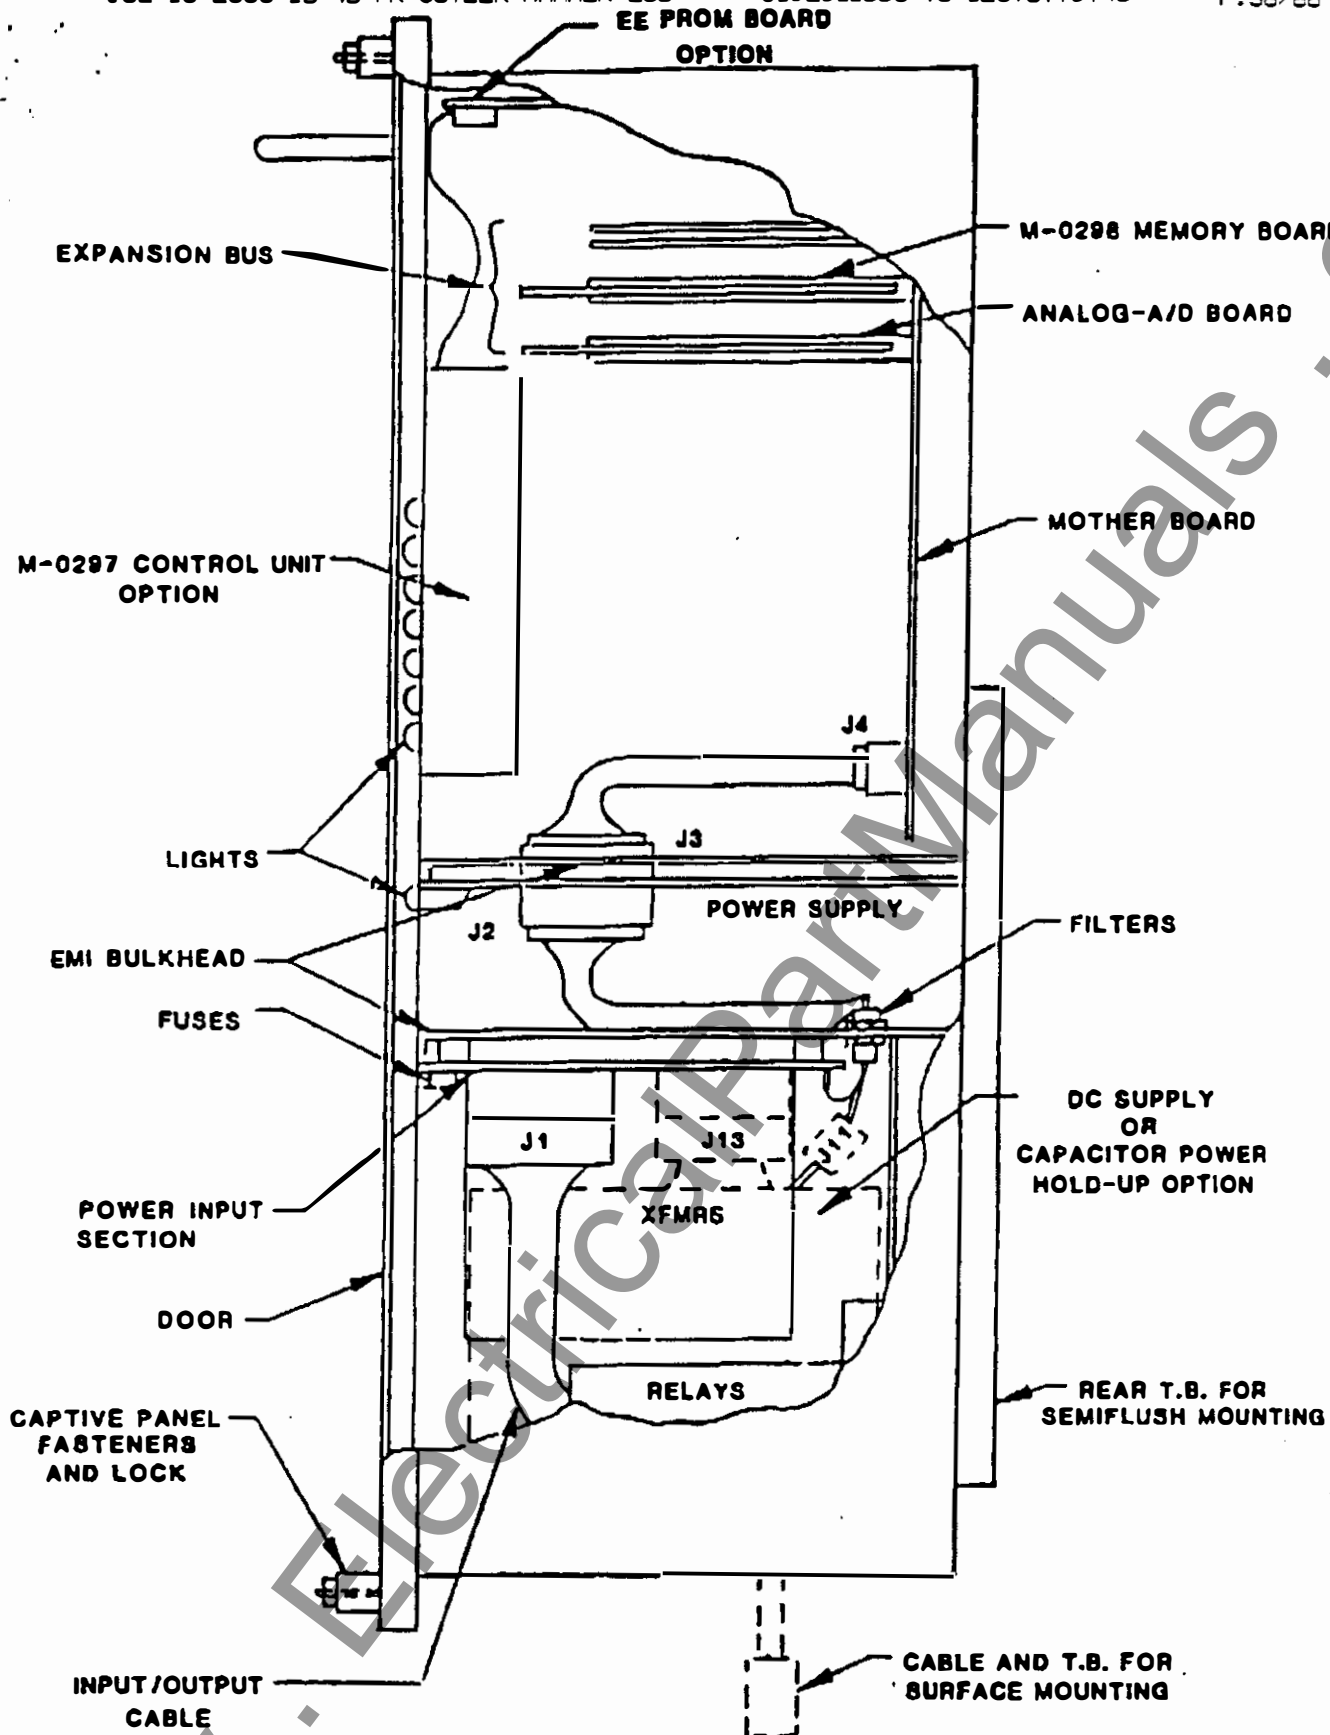

FIGURE 11 Mechanical Configuration
The Dc Supply mounts in the bottom compartment of the PRIDE (see Figures 11 and 21). Three nominal dc voltage options are available: 125 V dc, 48 V dc or 24 V dc. The PRIDE will operate from approximately 65% of the nominal voltage to 128% of the nominal voltage (i.e., 80 to 160 V dc for the 125 V dc option). Operation from 250 V dc is possible, but requires an external M-0319 Dropping Regulator to provide 125 V dc nominal input voltage to the PRIDE. The M-0296 should be ordered for 125 V dc operation, and the M-0319 is ordered separately. The M-0319 is a resistor-zener diode regulating device used to produce 125 V dc power from a 250 V dc battery source.
The PRIDE® packaging was designed for maximum protection of the electronic components from the electrical and natural environment. The steel box is compartmentalized as shown in Figure 11. The inputs and outputs enter the unit at the bottom in the Power Input compartment where the output relays and transformers are mounted. This compartment contains no components that are sensitive to voltage transients or electromagnetic interference (EMI).
2. Disconnect connector J1 shown in Figure 11 from the Power Input assembly.
When ordering a new Memory Board from Beckwith Electric, specify the new settings required. When the new board is received, remove the old board by carefully sliding it out of its slot (see Figure 11). If you are exchanging Memory Boards, place the old Memory Board in the antistatic bag and shipping carton and return to Beckwith Electric if credit is desired. Install the new board, assuring that the settings specified agree with those listed on the label supplied with the new board. To install the new board, carefully slide the board into the proper slot; the connectors are keyed so that the board cannot be put in incorrectly. Attach the new setpoint label over the old label located on the inside wall of the PRIDE Unit.